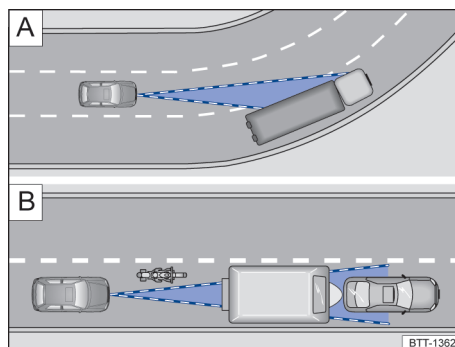

Fig. 94 **A** Driving through bends. **B** Vehicle that is driving outside the sensor range
The radar sensors always detect vehicles in a straight line. Therefore, it may suddenly detect vehicles in sharp turns or not detect vehicles in front → Fig. 94[A].
- Vehicles driving outside the sensor range and in the vicinity of the vehicle, e.g., motorcycles → Fig. 94[B].